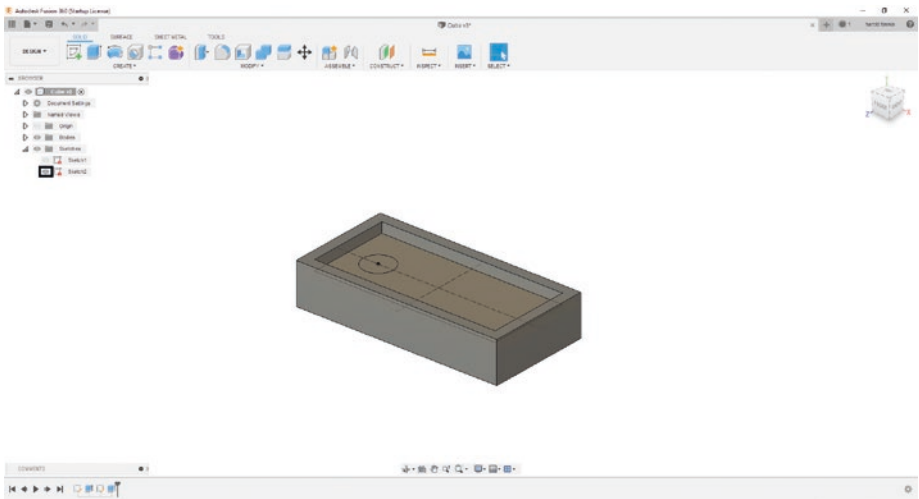

Figure 3-71. Show Sketch using the Browser menu
- 26. Once you press the “Enter” key, the sketch goes away; to bring the sketch back up, all you need to do is go to the Browser menu and go to Sketches and click this button  on Sketch2 to view the sketch. See Figure 3-71.